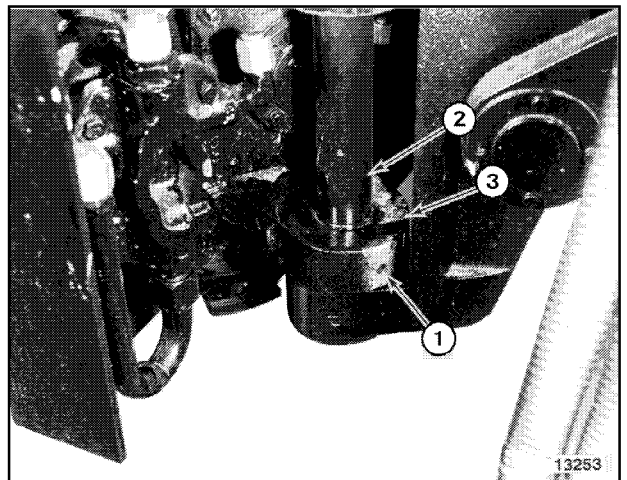

Figure 24
- Drive roll pin (1, Figure 24) into center pin (2) until pin can be felt bottoming against arm (3).